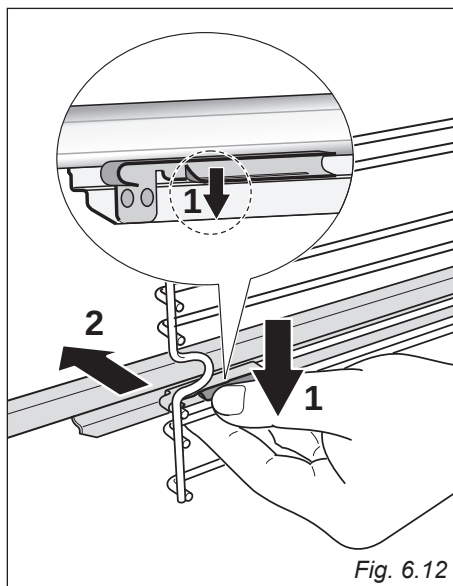

Fig. 6.12
- Find the safety locks. These are the tabs that clip over the fixing wire (arrow 1 in fig. 6.12).
- Pull the safety locks away from the fixing wire to release the sliding guide (arrow 2 in fig. 6.12).